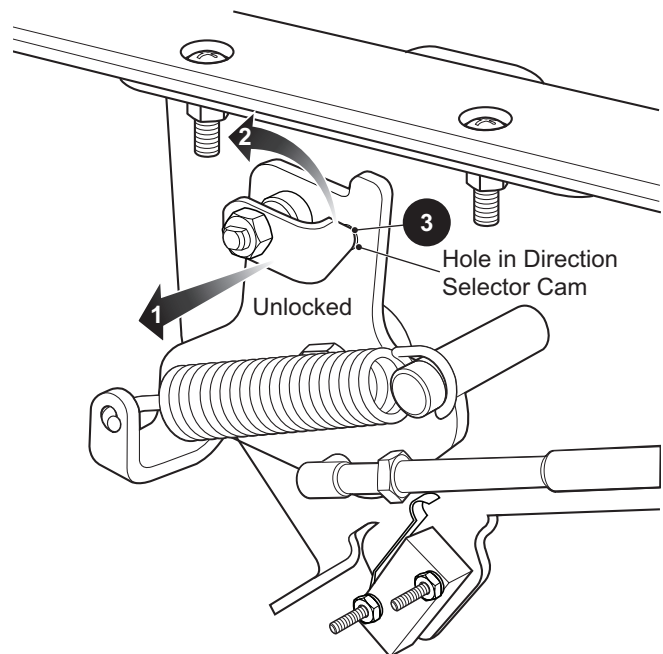

Figure 2 Neutral Lock
The neutral lock is located on the direction selector. To operate neutral lock located on the direction selector, first turn the key switch to the OFF position, place the direction selector in the R position (reverse) and remove the seat. Pull out (1) and rotate (2) the neutral lock pin handle so that the pointed portion of the handle is over the side of the direction selector cam (Figure 2). Move the direction selector lever towards the area between the F (forward) and the R (reverse) positions. During that motion, the pin will snap into the hole in the direction selector mounting bracket, preventing any movement of the lever. When in this position, the direction selector remains locked in the neutral position.